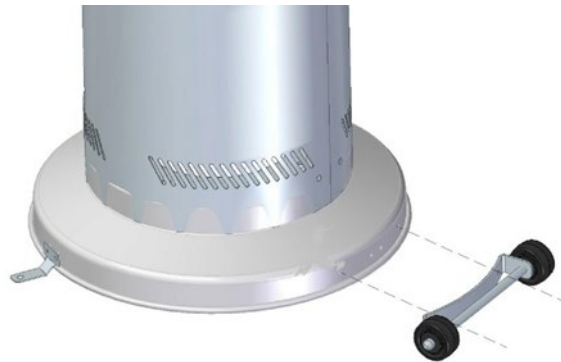

Figure 6: Attach Wheel Assembly to Main Base
8. Locate the Wheel Kit. Open the packaging and take the wheel assembly and the hardware provided out. Locate the two mounting holes on the Main Base. Line up the wheel assembly as shown in Figure 6 below. Insert both bolts into the matching set of mounting holes. Tip the heater slightly to be able to thread on the nylon nuts provided underneath the main base. Tighten the nuts until the wheel assembly is secure.